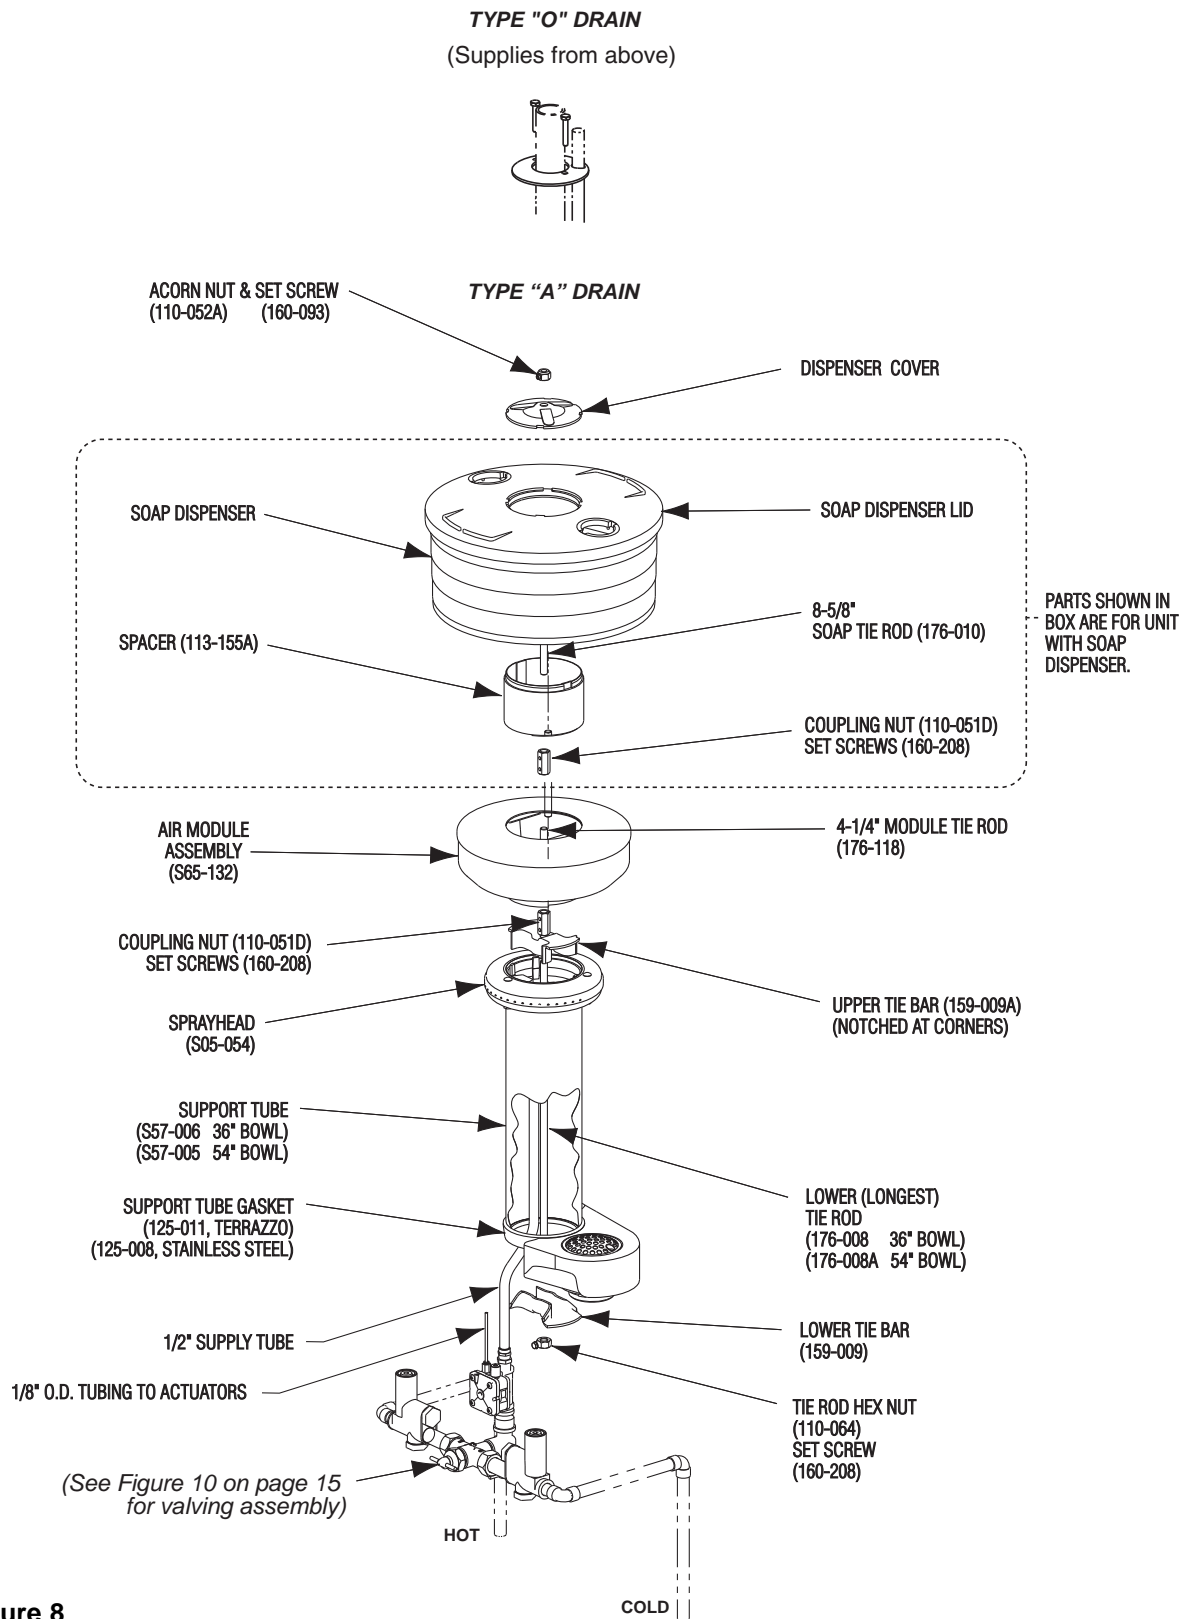

Figure 8
1. Install hemmed end (not sharp end) of support tube with gasket onto bowl as shown in Figure 8 on page 12.
3. Place sprayhead with 1/2" tubing onto support tube as shown in Figure 8 on page 12. Run tubing down through support tube.
4. Assemble the lower tie rod (the longer threaded rod), upper tie bar (notched at corners), lower tie bar, tie rod nut, and coupling nut, then attach the 4-1/4" tie rod to coupling nut as shown in Figure 8.
- 6a. **FOR UNITS WITH SOAP OPTION:** Install the spacer, soap dispenser and cover using the coupling nut, soap tie rod (8-5/8" long) and second coupling nut as shown (see Figure 8). Secure with acorn nut and socket head set screw.